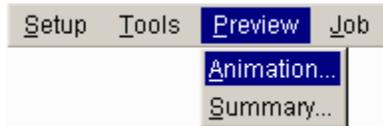

Figure 1.36 Animation menu
1. Select **Preview→Animation...** in the menu bar. See Figure 1.36.